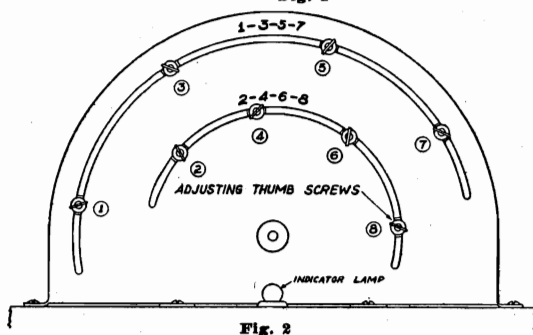

Fig. 2
The first step to take in adjusting the electric push button device incorporated into this receiver is to choose eight (8) of the most powerful local stations, stations which are free from excess fading. Turn on the receiver (broadcast band) and press in the dial tuning button; tune in the station of the **lowest frequency**, using the station selector knob. Now hold the dial tuning button in and press in button number one (1). (See Figure 1). Both buttons are now locked into place; a small pilot lamp located at the rear of the chassis will light up unless the thumb screw at the rear **accidentally** happens to be correctly set. Loosen thumb screw number one (See Figure 2 for order of thumb screws) enough to allow it to slide freely back and forth until the light goes out. Now tighten the thumb screw; the adjustment for the first station is now complete. Out of the station call letter sheet supplied remove the proper station call disc and insert into the recess of button number one. Push one of the clear celluloid discs into the recess also, over the station call disc. Now release button number one by pressing the dial tuning button in as far as it will go.
With the white button still in, tune in the station of the next highest frequency and holding the white button, press in button number two. Both buttons are now locked into place. Loosen thumb screw number two (see Figure 2) and slide back and forth until a point is reached at which the pilot lamp in the rear goes out; tighten the thumb screw. Insert the proper station call disc and celluloid disc into the window of button number two.